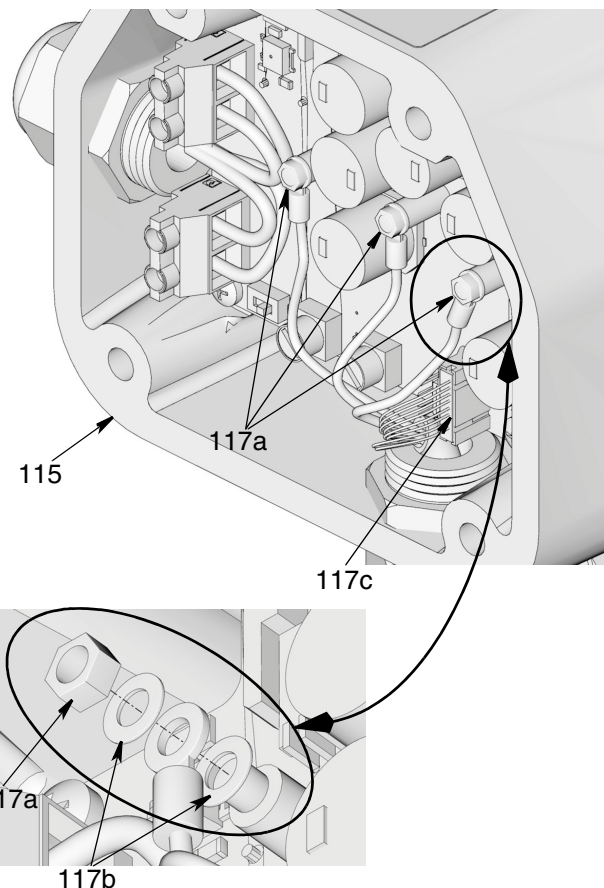

FIG. 54
6. Remove nuts (117a) as shown in FIG. 54. Remove washers (117b) and motor wires from terminals.
7. Disconnect sensor cable (117c) from control board (FIG. 54).